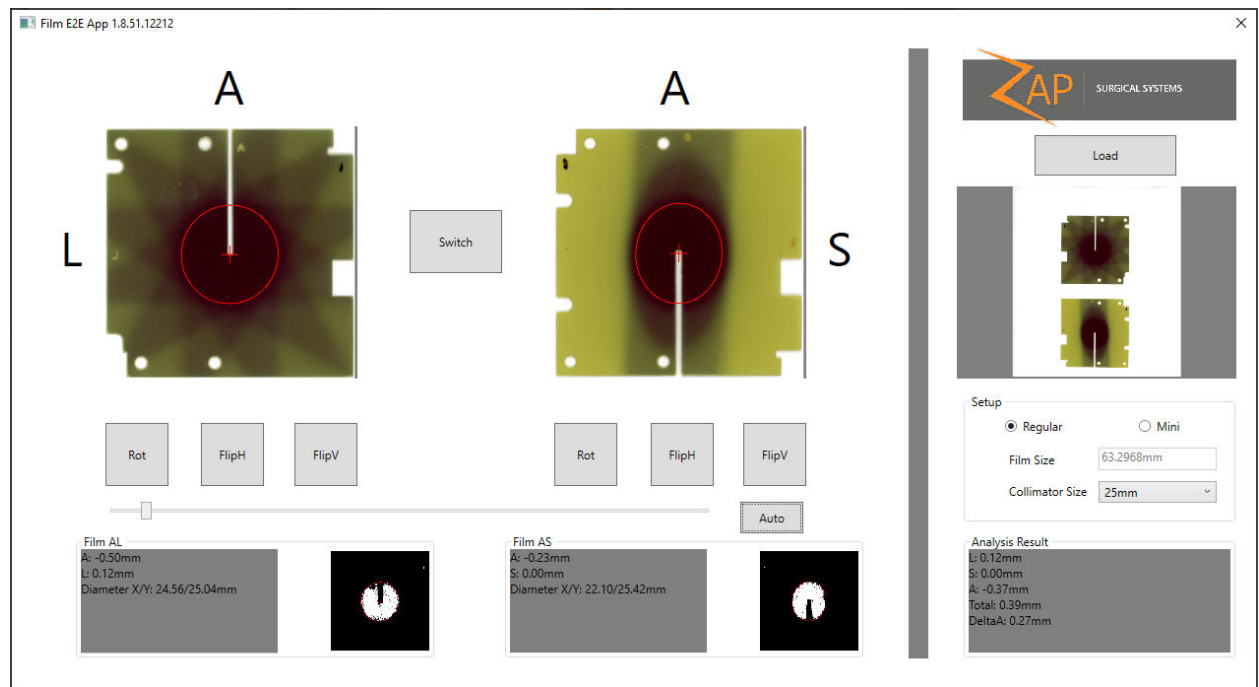

Figure 7-4 Film analysis software
Users can choose commercially available film analysis software for the End-to-End test results analysis. The optional film analysis software provided by Zap can be used to calculate End-to-End targeting errors (see Figure 7-4). Film Analysis consists of the following steps:
2. Reach the absolute smallest value of the dose contour by dragging along the slider bar to the left of the **Auto** button (see Figure 7-4). The contour is smallest on the left side and largest on the right side.